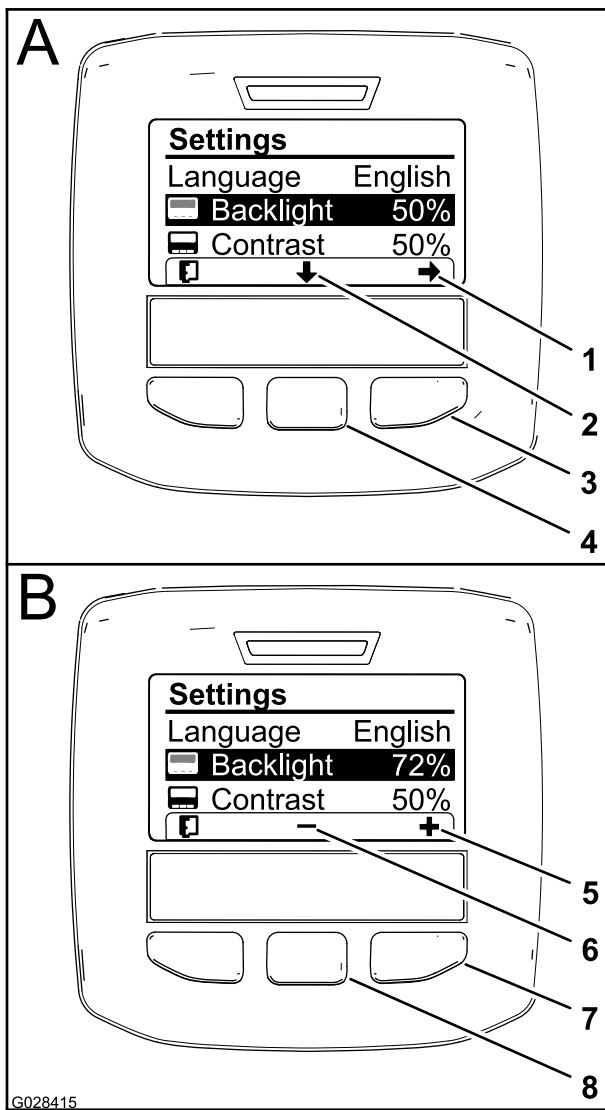

Figure 54
2. To adjust the backlight level of the display, press the center selection button (the button below the down arrow icon in the display) to move the selected option down to the Backlight setting (Figure 54).
- Press the right selection button to display the value adjustment context (Figure 54).
- Use the center selection button and right selection button to change the brightness level of the display (Figure 54).
selection, exit the Backlight menu, and return to the Settings menu (Figure 54).
- To adjust the contrast level of the display, press the center selection button (the button below the down arrow icon in the display) to move the selected option down to the Contrast setting (Figure 54).
- Press the left selection button (the button below the list icon in the display) to save your selection, exit the Contrast menu, and return to the Settings menu (Figure 54).
- Press the left selection button to exit the Settings menu and return to the Main Menu (Figure 52 and Figure 54).
- Press the left selection button to return to the Home screen (Figure 54).